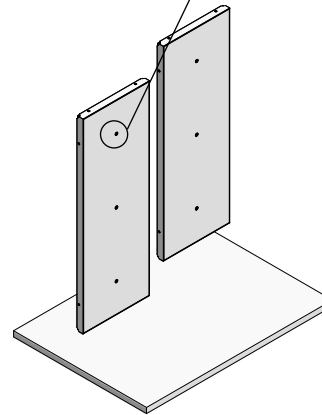
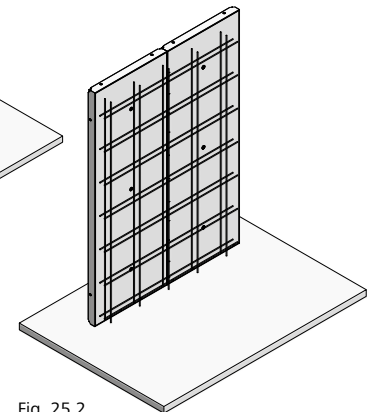

Fig. 25.1
Fig. 25.2
1. Place initial-formwork panel (Fig. 25.1 and XT-4 and -5) and carry out boxout work (Fig. 25.2).